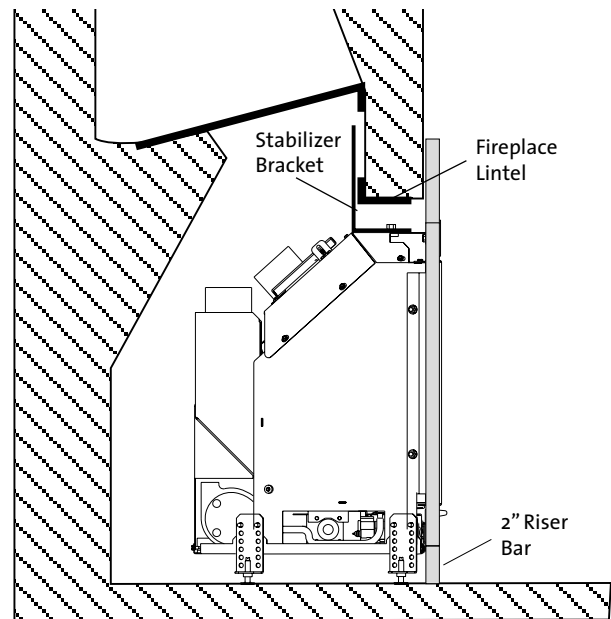

Figure 37. Installing the Stabilizer Bar.
**RISER BAR:** The 2" riser bar is used in conjunction with the standard cast iron surround, and is only needed in the event that the fireplace opening is between 27 1/2" and 29 1/2" high. The riser bar can be used in any installation if desired. See fig. 37.
1. If the riser bar is to be used, the insert must be lifted 2" off the floor of the fireplace to allow for the riser bar to fill the space below the bottom grill assembly. See fig. 37. Install the leveling legs to achieve the appropriate height.
**NOTE:** THE COMBINED WEIGHT OF THE CAST IRON SURROUND AND RISER BAR MAY CAUSE THE UNIT TO BECOME TOP-HEAVY. IN THAT CASE, INSTALL THE STABILIZER BAR THAT IS SUPPLIED WITH THE FIREPLACE. THE STABILIZER BAR ATTACHES TO THE TOP OF THE FIREBOX AND WILL BRACE THE UNIT AGAINST THE FIREPLACE LINTEL TO PREVENT THE UNIT FROM LEANING FORWARD. See figs. 37 and 38.
Note: the riser bar is not used for support of the insert- if more space is needed for the riser bar, raise the unit using the levelling legs. See figure 37 .